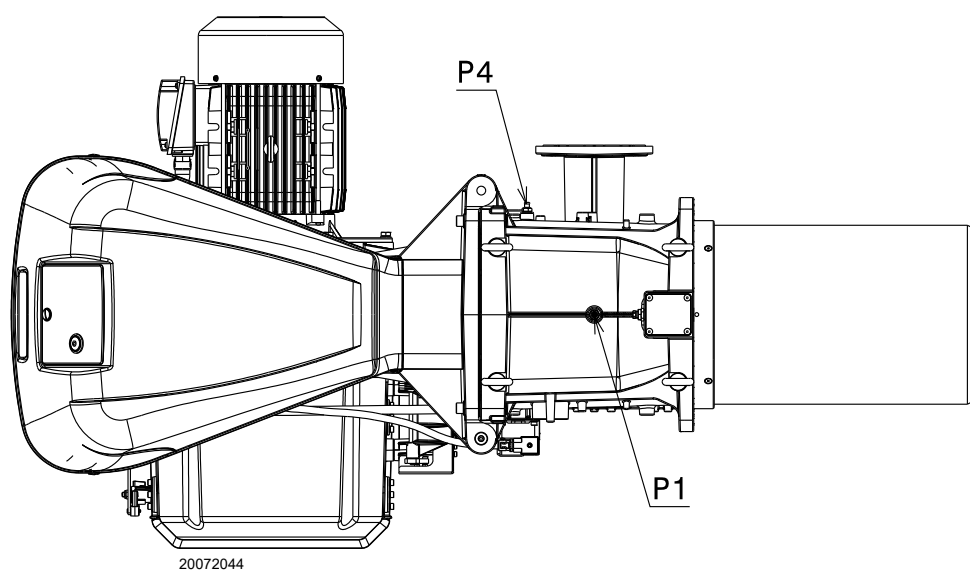

Fig. 26
Gas pressure measured at the test point P1)(Fig. 26), with:
- subtract the combustion chamber pressure from the gas pressure measured at test point P1)(Fig. 26).
Gas pressure at test point P1)(Fig. 26) = 46.7 mbar
To calculate the required gas pressure at test point P1)(Fig. 26), set the MAX output required from the burner operation:
- read, on the right (column 1), the pressure at the test point P1)(Fig. 26).
Pressure required at test point P1)(Fig. 26).